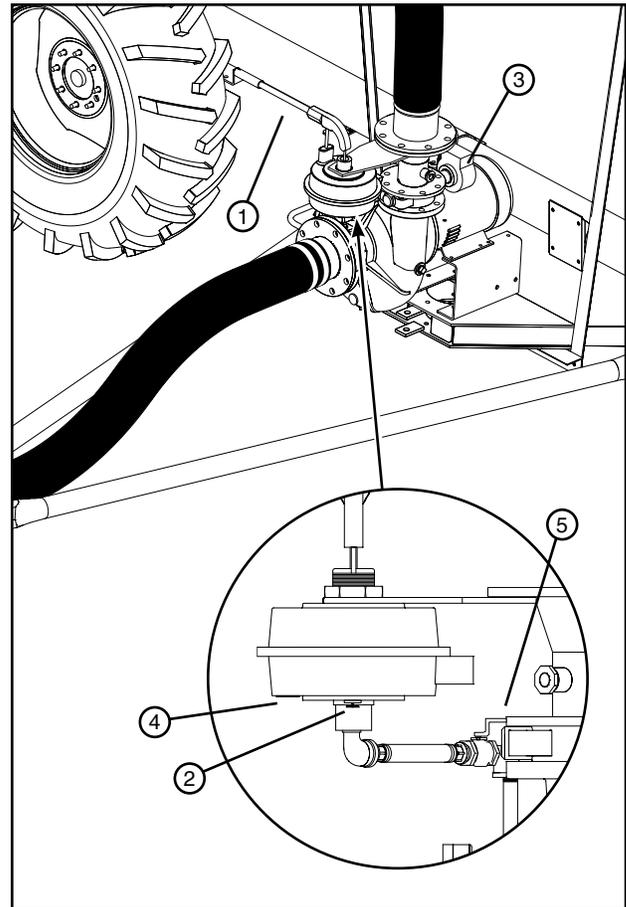

Figure 71-1 1. Primer Pump Handle 4. Check Valve
The hand pump primer is used for priming of pump installations with suction inlets in a Centrifugal Pump Application. See Figure 71-1.
1. Make sure that the drain cock is closed on the hand pump base. The drain cock should only be opened after priming to drain any liquids in the primer body. See Figure 71-1.